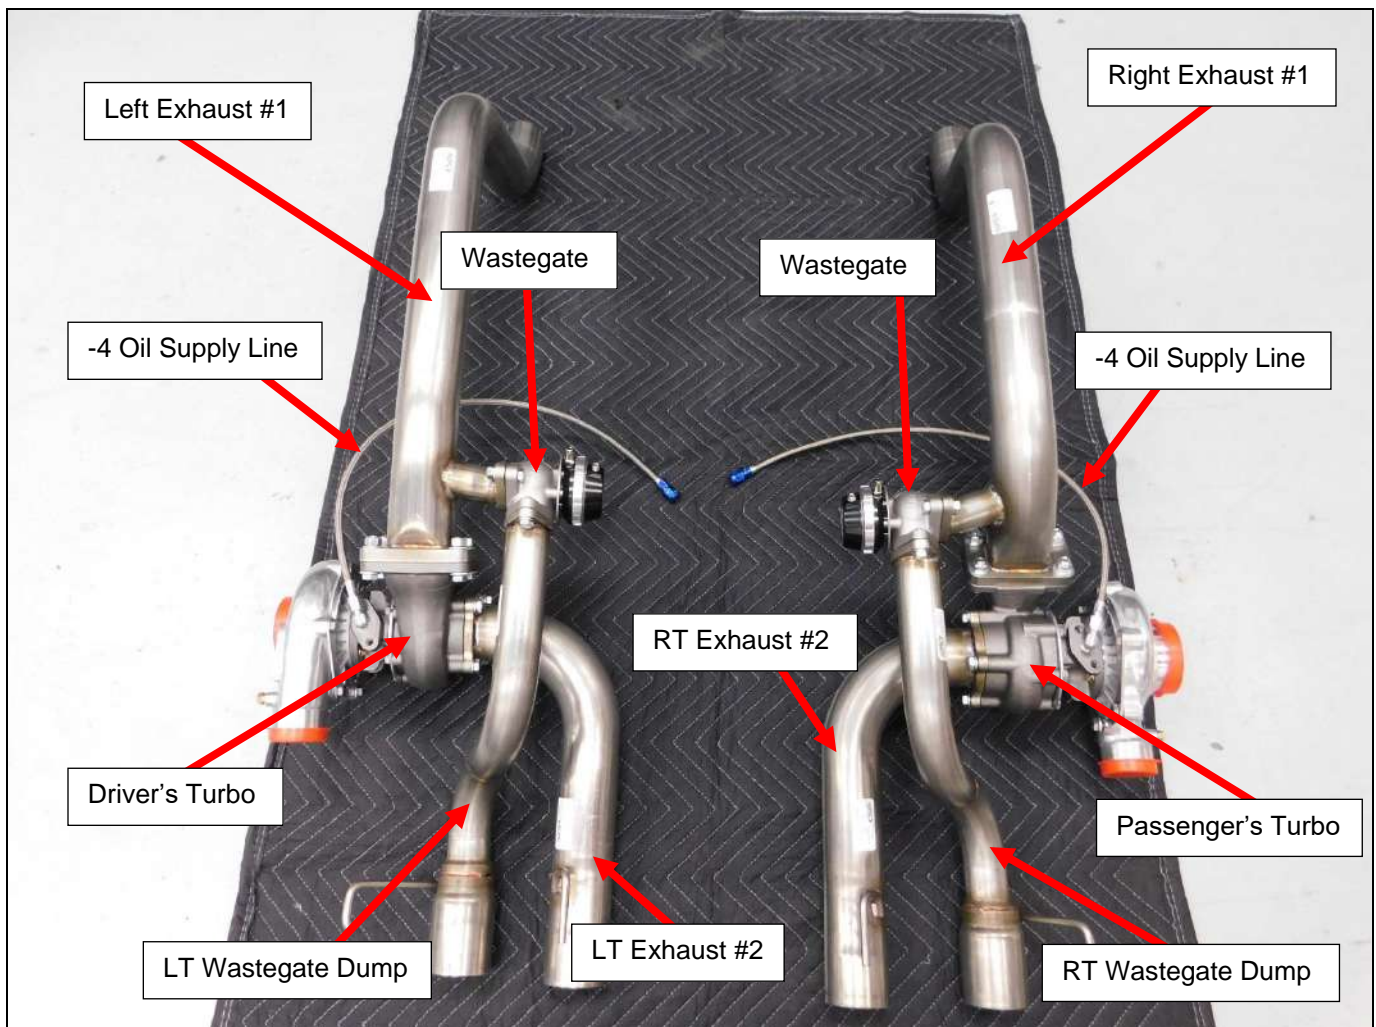

Figure 48
1. Assemble the left and right exhaust #1 pipes to the turbos as shown below, using the supplied gasket, 3/8-16 x 1.5" bolts, washers, and nuts. Use anti-seize on the threads of the bolts (**Figure 48**).
- b. Assemble the wastegate to the 2-bolt flange on left and right exhaust #1. Use the supplied gasket, M8x 35mm Allen head bolts, and nuts. Use anti seize on the threads of the bolts (**Figure 48**).
4. Assemble the left and right wastegate dump pipes to the wastegate outlet. Use the supplied gasket and M8 x 25mm Allen head bolt. Use anti-seize on the threads of the bolts (**Figure 48**).